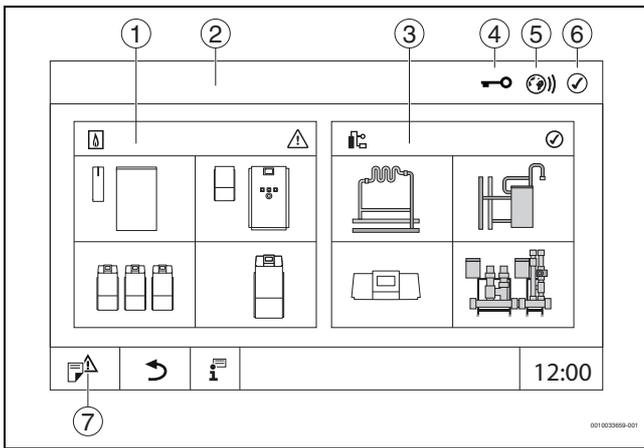

Fig. 10 System overview (example)
- ▶ Tap on **System** (→ Figure 10, [3], page 12).